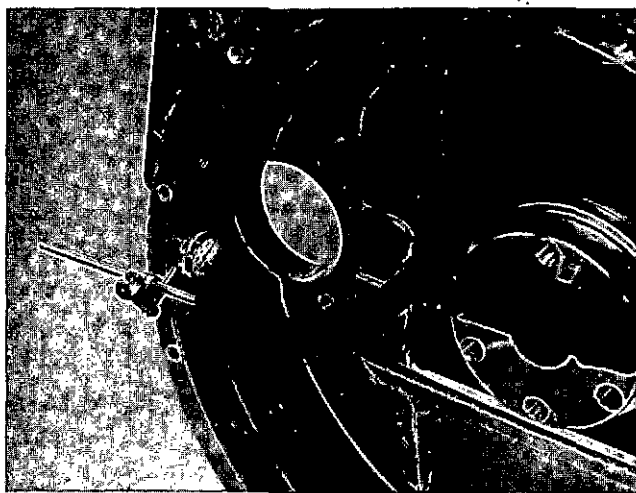

Fig. 14-56 (N114275). Check The Location Of The Bore.
1. Install the Part No. ST-1325 Dial Gauge Attachment to the crankshaft. Install the Part No. 3376050 Dial Gauge to the attachment, Fig. 14-56.